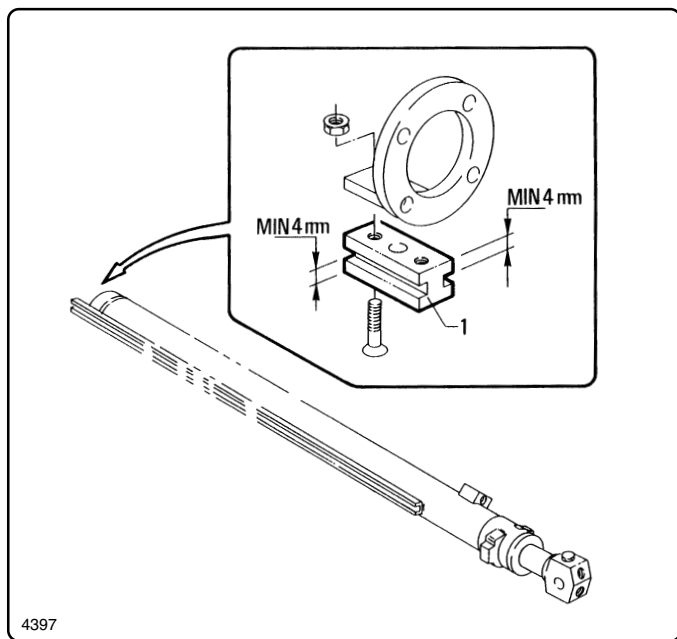

fig. 8.13.2
In nessun caso lo spessore della parte superiore o inferiore del pattino deve essere inferiore al valore riportato in fig. 8.13.2.
*The wear of slide pads "1", fig. 8.13.2, of the boom cylinder guides is checked by measuring their thickness.*
*In no case should the thickness of the top or bottom part of the pad be lower than the value indicated in fig. 8.13.2.*